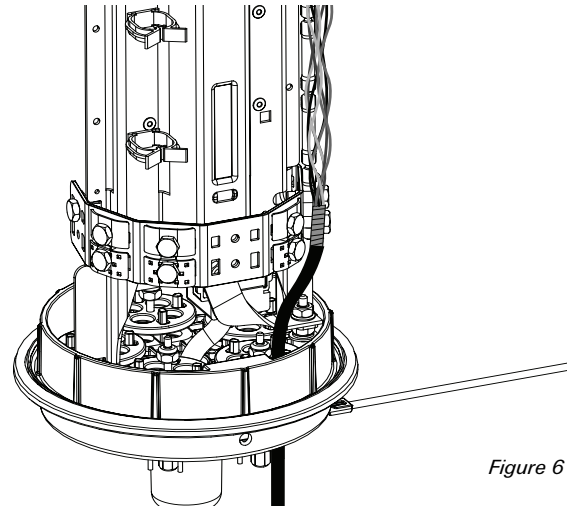

Figure 6
5. Prepare the drop cable, exposing 1" of shield and appropriate length of conductors. (Figure 6)